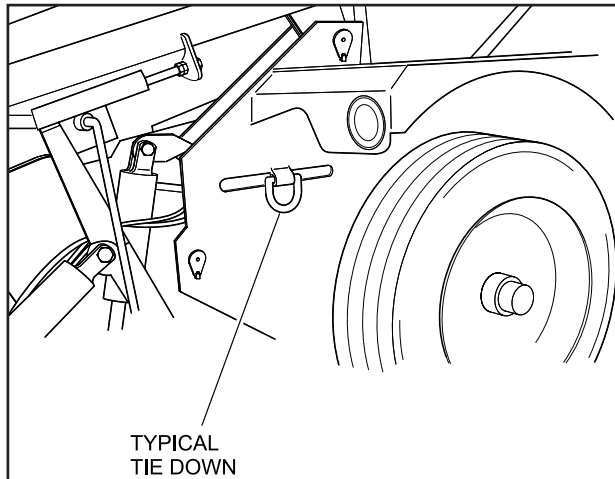

FIGURE 3-15. TYPICAL D RING FOR TIE DOWN
2. Load the loader onto the trailer and block the wheels in both directions. Use enough chains to secure the loader to make sure that it will not move while transporting. Use the factory tie downs (See Figure 3-15).